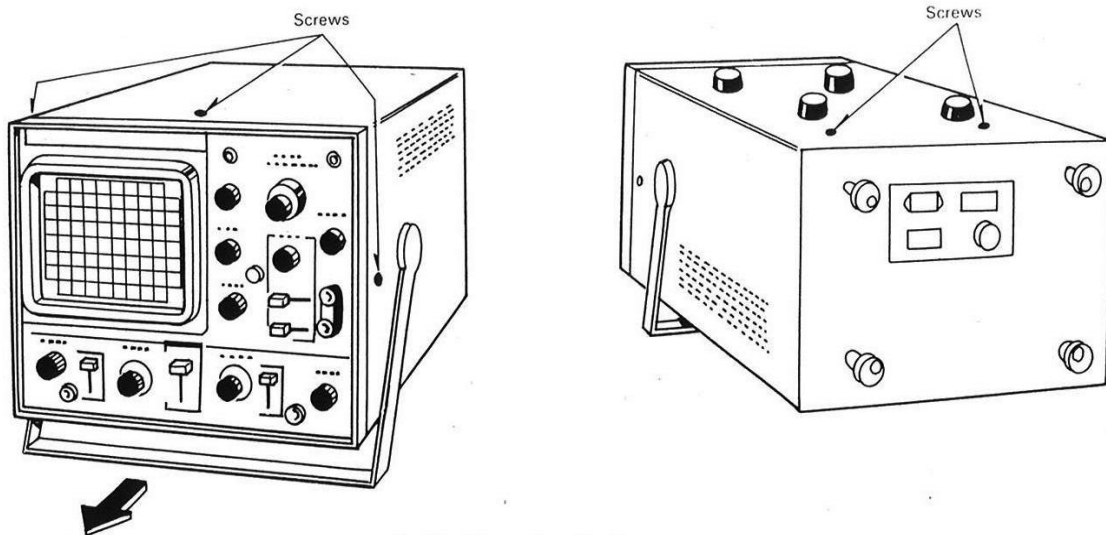

Fig. 2 Removing the Case
1. REMOVING THE CASE (Refer to Fig. 2)